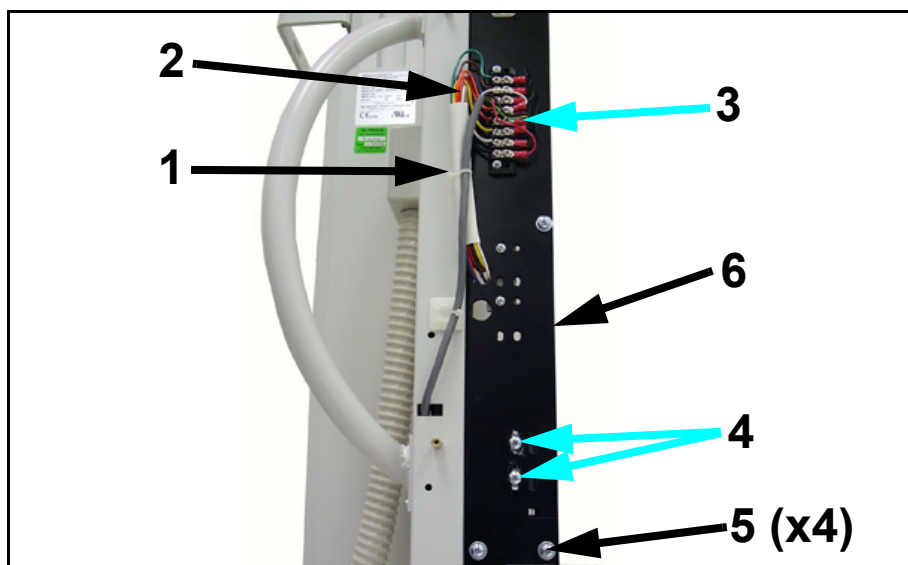

Figure 6-26. PBL Bracket Screws
- 9 Cut cable tie (1 in Figure 6-26).
- 10 Disconnect wires (2) from the terminal (3).
- 11 Unscrew the connector screws (4).
- 12 Unscrew the four PBL bracket screws (5) and separate bracket (6) from the cassette holder.